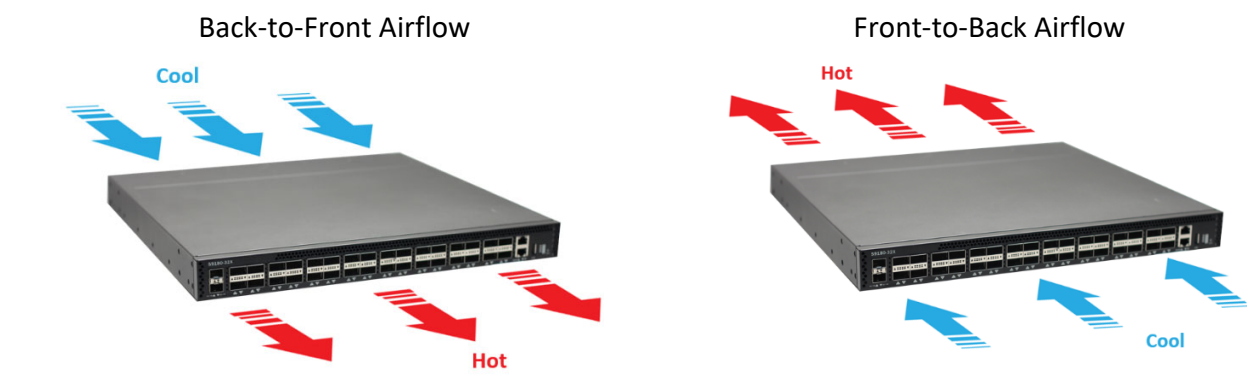

Figure 3.
- Cooling: The S9180-32X has two options for airflow direction. There is a back-to-front option (Figure 3. Left) and a front-to-back option (Figure 3. Right). Make sure the equipment on the same rack have the same airflow direction.